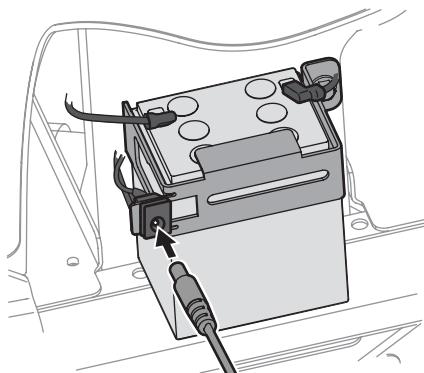

Figure 36
- b. If your battery charger is automatic, charge the battery until the charger indicates that charging is complete. If the charger is not automatic, charge for no fewer than eight (8) hours.
- a. A separate charging unit is available for this riding mower. Instructions for using this feature will accompany the battery charging accessory. The charging unit will plug in right next to the battery as shown in Figure 36. To order the battery charger, see the Parts/Warranty supplement sheet.